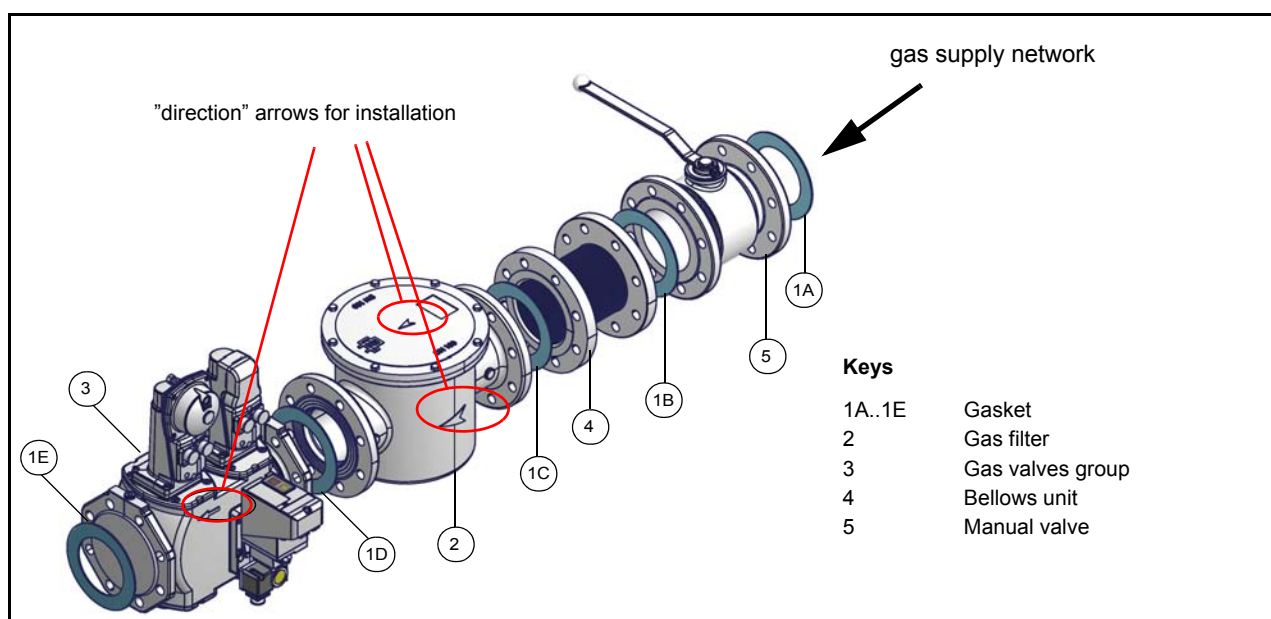

Fig. 7 - Example of gas train
- 1-b) in case of flanged joints: place a gasket (no. 1A..1E - Fig. 7) between the elements
ATTENTION: once the gas train is mounted according to the diagram on Fig. 7, the gas proving test must be performed, according to the procedure set by the laws in force.